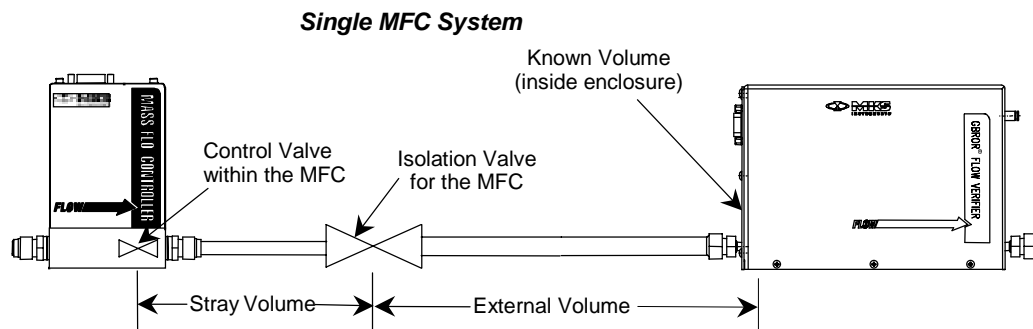
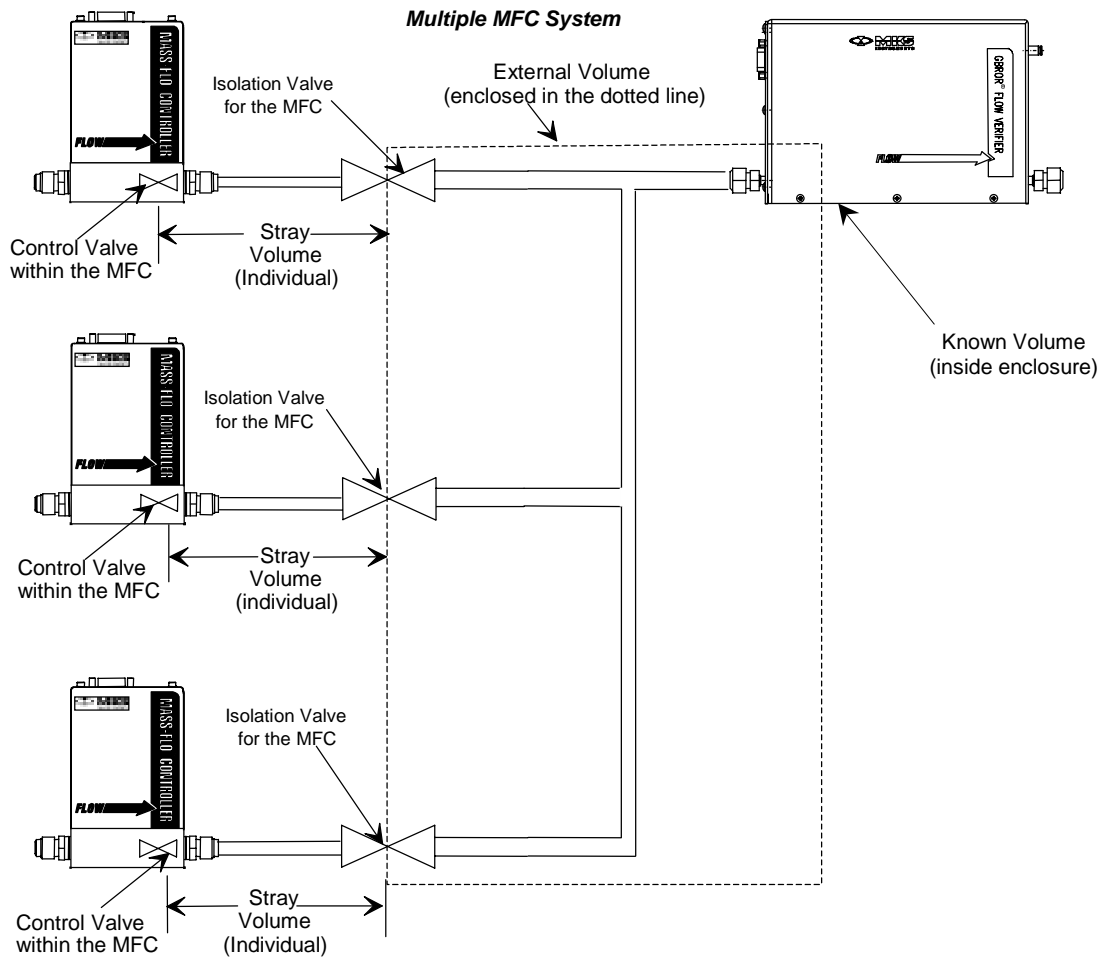

Figure 8: Identification of Volumes on a Single MFC System
Figure 9: Identification of Volumes on a Multiple MFC System
6. Watch the display for the prompt. Then stop gas flowing through the system. Use an isolation valve immediately downstream of the MFC to stop the flow. Refer to Figure 8 and Figure 9, for the location of an isolation valve. You must be certain that the volume between the MFC and the isolation valve is entered in the stray volume field in the setup menu.